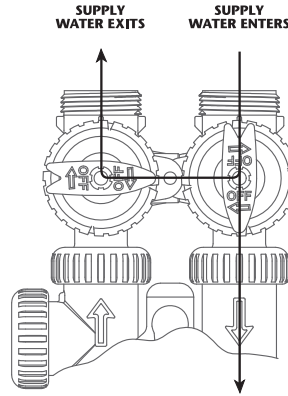

FIGURE 3
3. **DIAGNOSTIC POSITION:** The inlet handle points toward the control valve and the outlet handle points to the center of bypass valve. Untreated supply water is allowed to flow to the system and to the building, while not allowing water to exit from the system to the building (**Fig. 3**). This allows the service technician to draw brine and perform other tests without the test water going to the building.